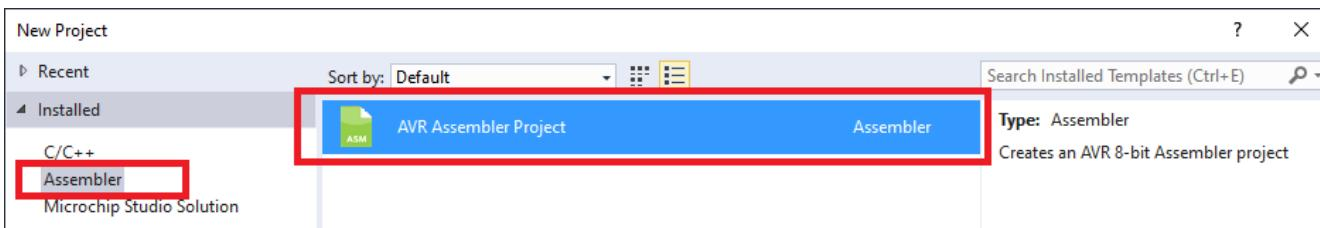

Figure 2: Selecting the Project Type.
2. Under *Installed*, select Assembler, and then AVR Assembler Project as shown in *Figure 2*.